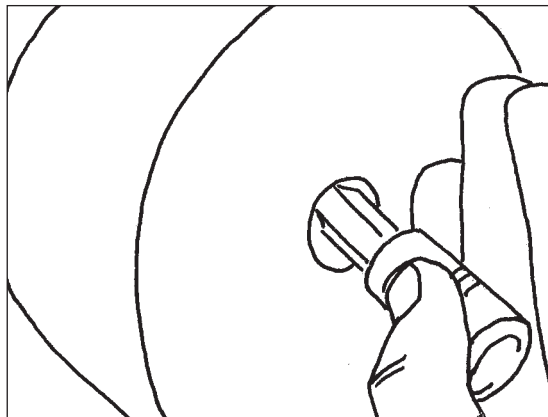

Figure 51
6. Slide the pitman arm puller (Kent Moore #ZTSE4439) over the pitman arm, and remove the retainer. As you remove the retainer it will act as a jack screw against the puller to remove the arm (Figure 51).